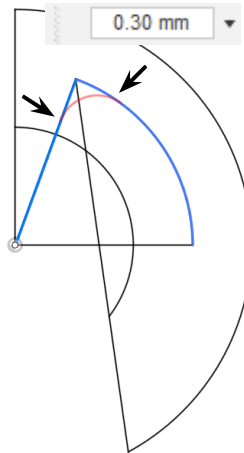

Fig. 8
Step 2. Click line and arc at **top of middle arc segment**, Fig. 8